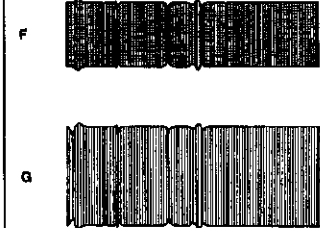

Fig. 3-2-4
- 3 Check the FM waveform after performing "GUIDE ROLLER Adjustment" in item 3-2-1.
- 4 If the amplitude of the FM waveform is narrow like F because of out of phase, adjust it to the maximum like G in Fig. 3-2-4, by the following procedure. Loosen the screws E and D and insert a screw driver into the plastic boss of the MAIN PLATE ASSY. Move the A/C PLATE right and left to adjust the amplitude level of the FM waveform to the maximum. [Waveform G in Fig. 3-2-4]